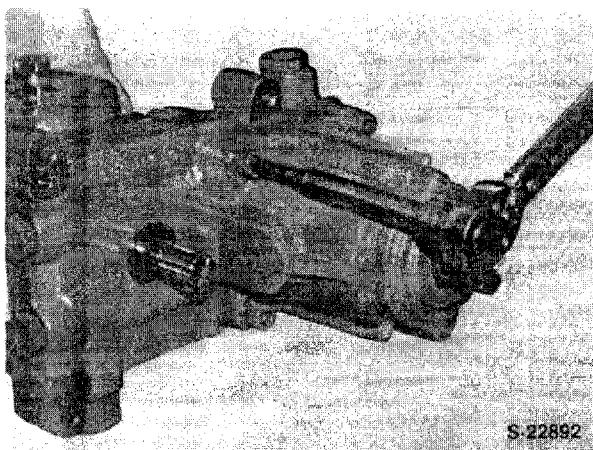

Figure 75
6. Tighten the four socket head type bolts. Be sure the input and output shafts rotate freely and then apply the final tightening to the bolts, Figure 75.